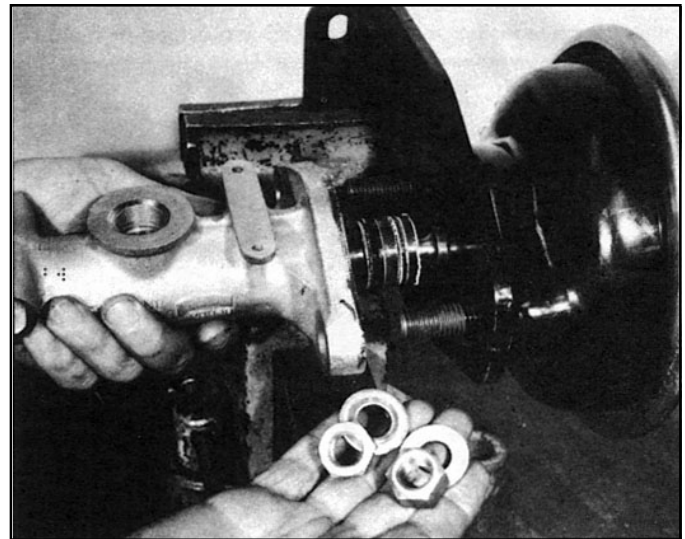

FIGURE 8
5. Note and mark the orientation of the actuator and master cylinder to the mounting bracket. Remove the two nuts and washers from the mounting studs of the actuator (use a 15/16" socket wrench). Separate the master cylinder and actuator from the mounting bracket and retain the actuator for later disassembly. CAUTION: Piston under spring load and retained by the push rod only when compensating tilt valve assembly has been removed. (Refer to Figure 8.)